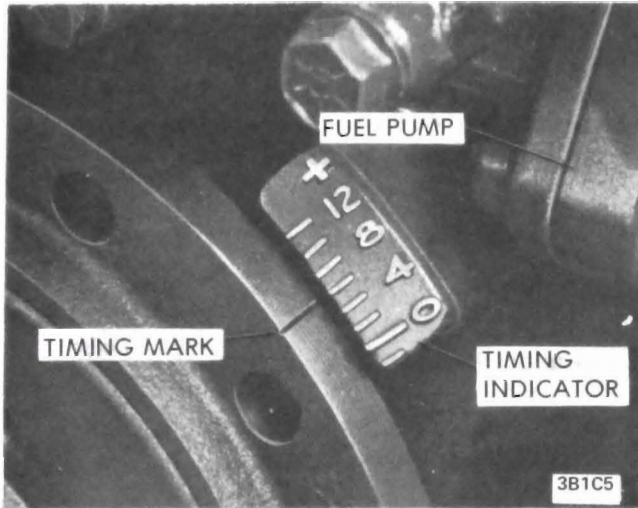

Figure 1C-6 Timing Mark and Indicator.
8. Direct timing light beam on engine timing indicator and mark on harmonic balancer. Slowly rotate distributor until mark on harmonic balancer is aligned with specified degree mark on timing indicator. See Figure 1C-6. Refer to specifications section for proper setting.